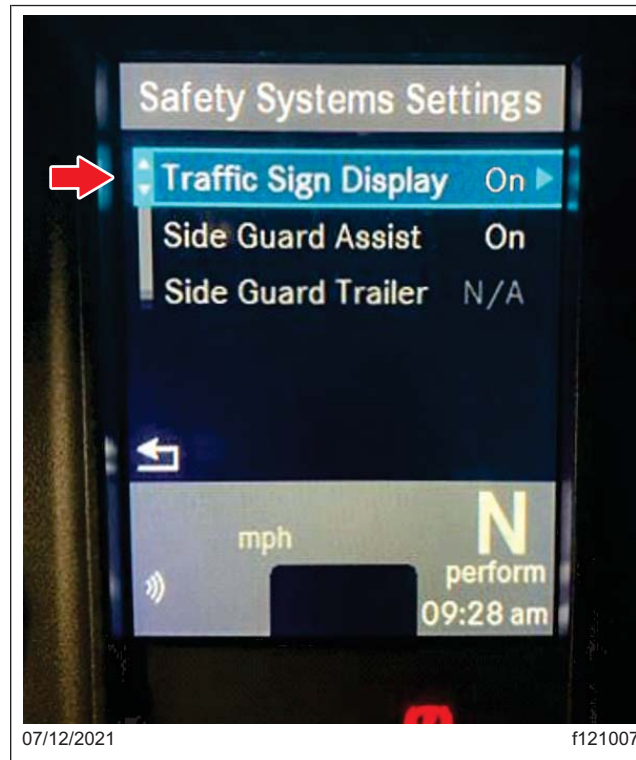

Fig. 9, Safety Systems Screen in ICUC Dash Display
- For **ICUC Dash Display**, using the steering wheel switches and on-screen prompts, navigate to 'Settings,' 'Safety Systems,' and 'Traffic Sign Display' to verify the 'Traffic Sign Display' feature is available, and can be turned ON or OFF. See Fig. 9.